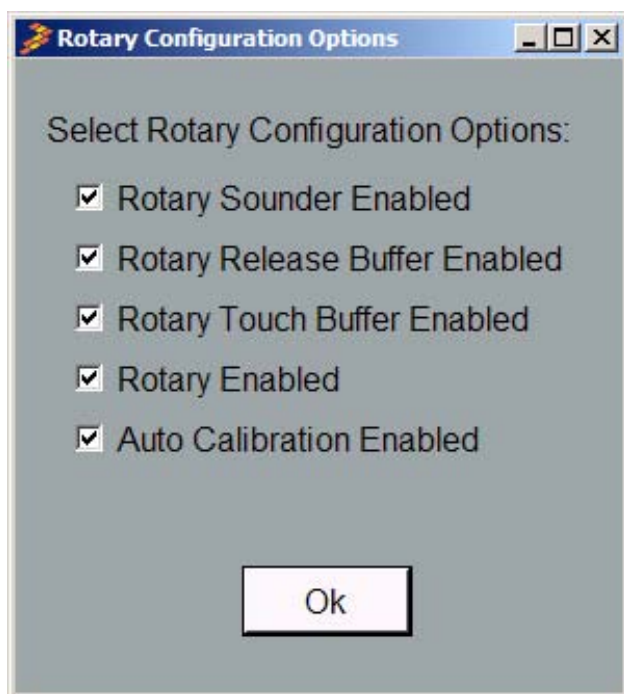

Figure 21. Rotary Configuration Options
- D. Rotary Configuration Register – The rotary configuration register configures a variety of the MPR083 features such as enabling the rotary, enabling the rotary sounder, enabling the rotary release buffer, enabling the rotary touch buffer and enabling auto calibration. In order to enable/disable any of the rotary configuration register features the user must select the “Options” button in the Rotary Configuration register. The “Options” button will show the “Rotary Configuration Options” window (Figure 21). At start up, all of the options are enabled.